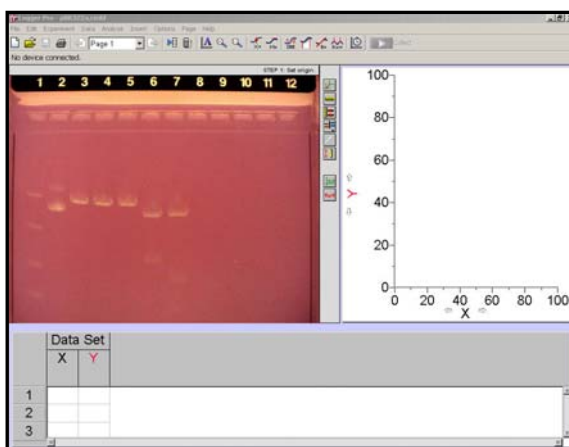

Figure 1 *Logger Pro* ready to begin Gel Analysis
4. Once the photo is on the screen, choose Auto Arrange from the Page menu. Your screen should now look similar to Figure 1.
5. Choose Auto Arrange from the Page menu. Your screen should now look similar to Figure 1.